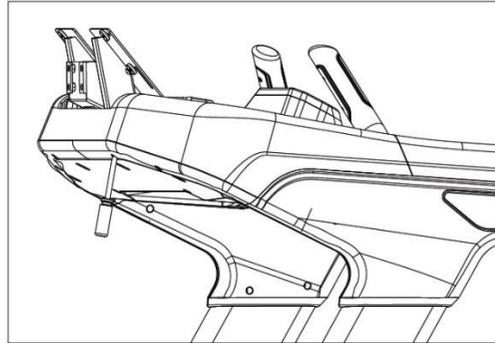

Figure 4.9.1
- 2) As shown in Figure 4.9.1, remove the 18 screws from the upper bracket and remove the bracket cover.